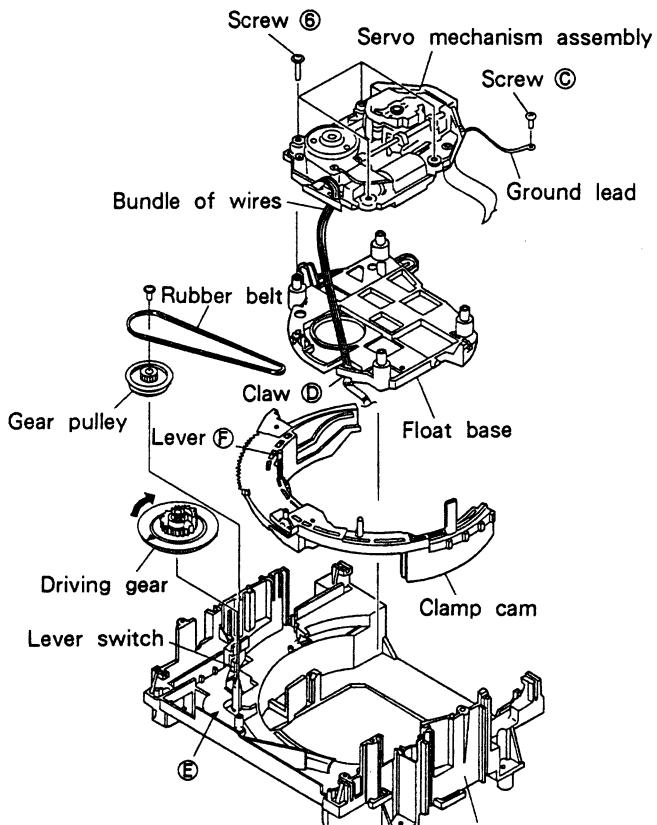

Fig. 2 – 2.
2.3 REMOVING THE FLOAT BASE (See Fig. 2 – 2.)
- ① Remove the servo mechanism assembly. (See 2.2.)
- ② Rotate the driving gear in the clockwise direction fully. The clamp cam will rotate in the counterclockwise direction, and the float base will rise.
- ③ After removing the bundle of wires from claw ⑩ of the float base, remove the float base.